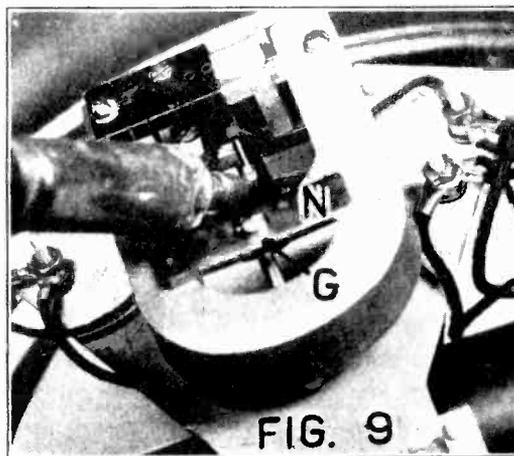
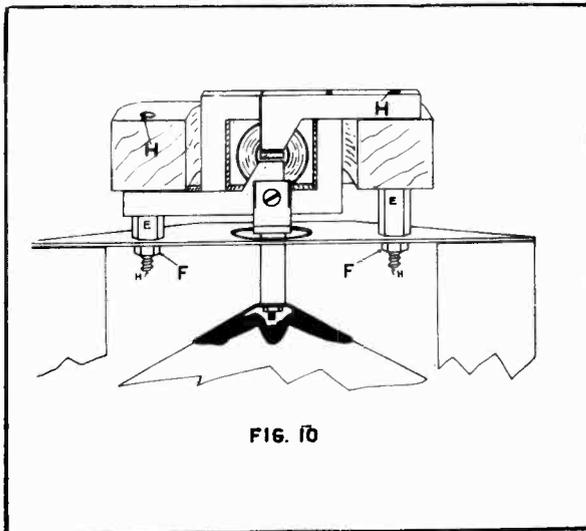

FIG. 9
FIG. 10
The Loudspeaker should again be tested. If the rattle still persists it is probably due to an excessive pressure on the connecting rod which may be corrected as shown in Figure 9. A soldering iron should be applied to the point where the inner end of the stylus is soldered to the thrust lever. The solder at that point should be softened sufficiently to allow free movement of the stylus. Here again the adjustment is automatic and it is only necessary to keep the solder soft until this readjustment takes place.
3. Remove the nuts F, Figure 10, from the upper supporting screws "H". A small open end wrench will be necessary for this operation as it is necessary to remove these nuts by inserting the wrench between the cone and the frame.
4. Unscrew the lower supporting screw G, Figure 9, and remove the strap "N".
6. Remove the two screws "H", Figure 10, holding the motor in place. These screws thread into the spacer bushings "E".
7. Remove the keeper and place the motor in position on the horseshoe magnet. Before seating the screws "H", Figure 10, that hold the motor to the magnet push both sides of the motor down toward the curved part of the magnet. The motor should be horizontal with respect to the sides of the magnet.
8. Replace these assembled units on the Loudspeaker frames. Place the connecting rod through the cone. Place the lower supporting strap "N", Figure 9, in place and tighten screw "G" until the unit is held in position, but not firmly.
10. Seat the screw "G" holding the lower strap "N", Figure 9, and then fasten the upper portion of the unit to the frame by means of the nuts "FF", Figure 10, on the upper screws "HH". When tightening these last two mentioned nuts be careful not to disturb the central position of the unit as established in 9.